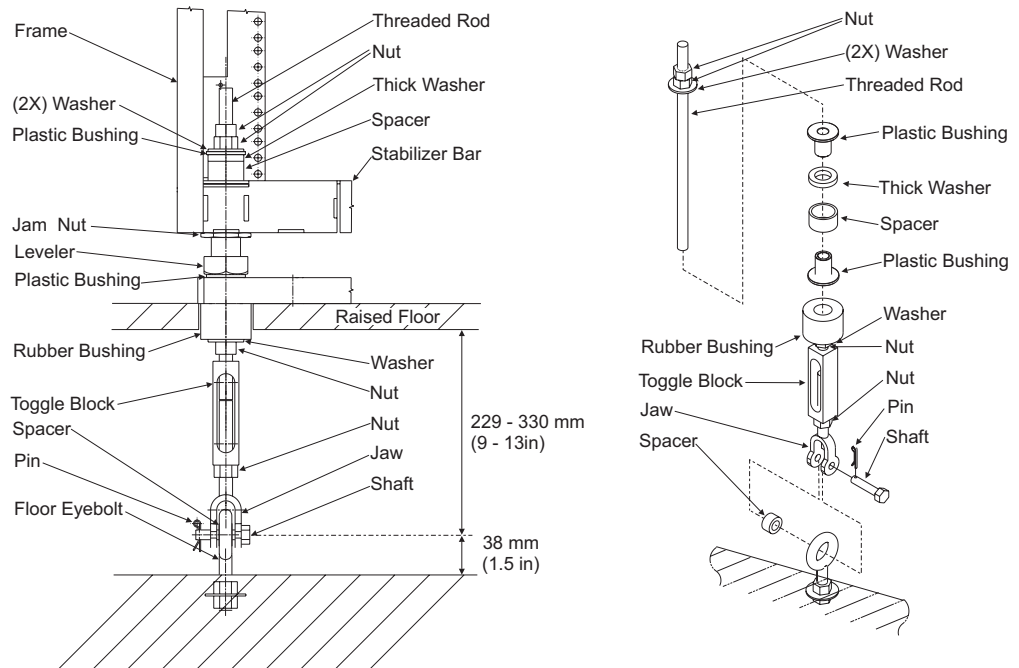

Figure E-4. Turnbuckle assembly - low raised floor (FC7996)
- ___ Step 1. Refer to either Figure E-4 on page E-6 or Figure E-5 on page E-6 and remove all of the turnbuckle parts above the toggle block.